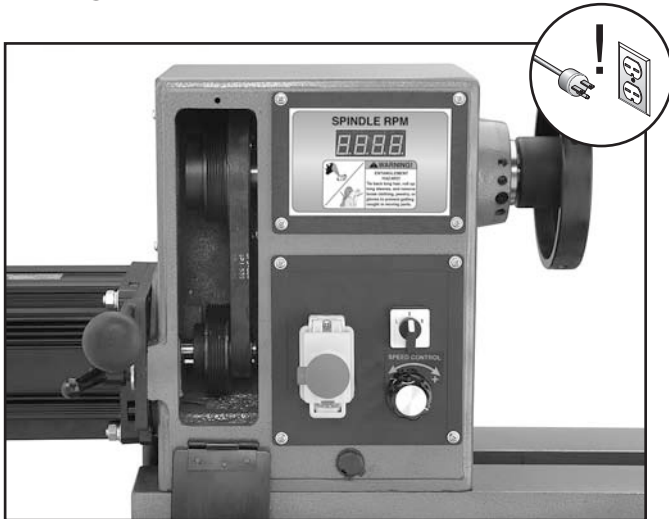

Figure 60. Belt access panel removed.
2. Open the front belt access panel, as shown in **Figure 60**.